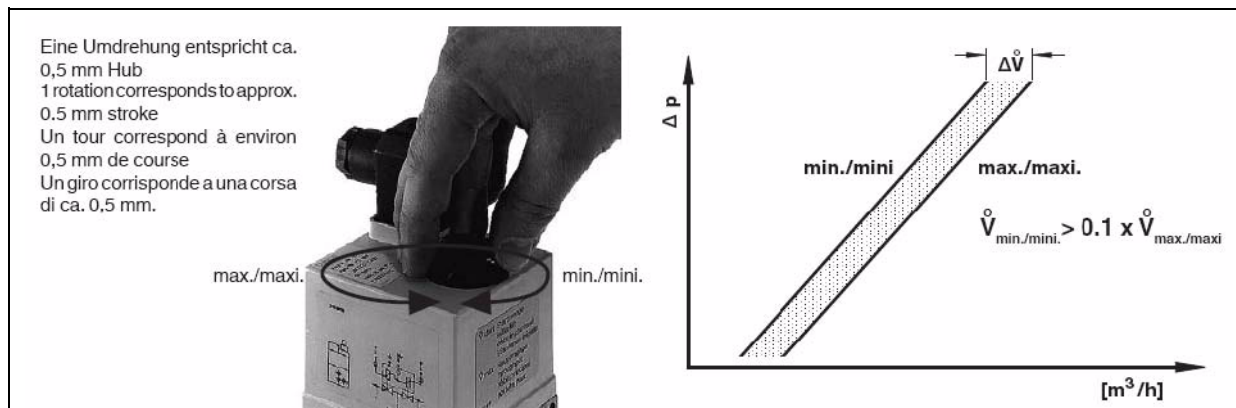

Figure 4A Pilot Valve Flow Adjustment
- f. Adjustment is on pilot solenoid valve. (See Figure 4A.)